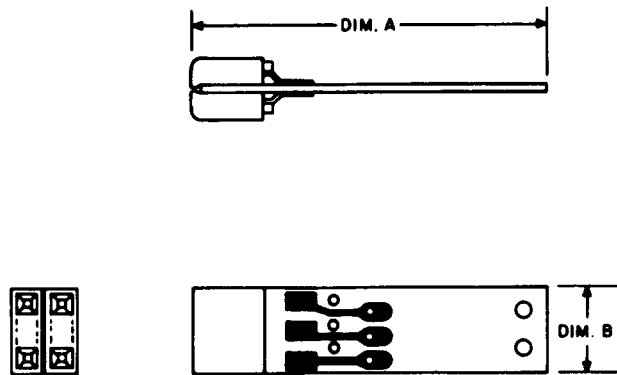

Fig. 16—982-Type Connector
**2.12 982-Type:** The 982-type connectors (Fig. 16) consist of two 963J-type connectors (except 963J-10 and 963J-10-8) bonded to and terminated on a paddleboard. The paddleboards are designed to terminate discrete wires, flat cable, and components, or provide for specific interconnections. For more information, see Table C.